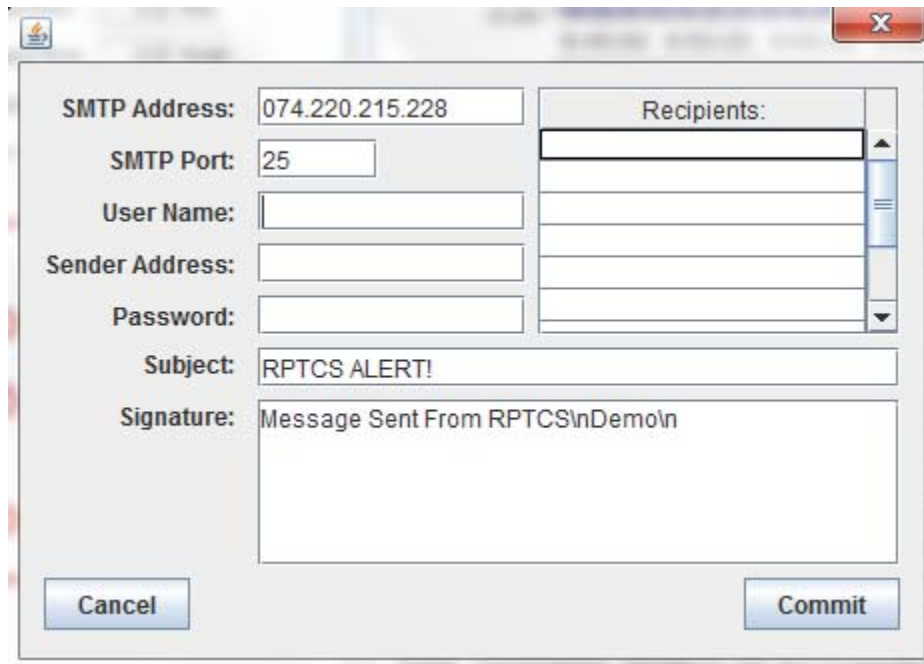

Figure 11 Email Settings
3. Figure 11 shows the Configure Network Settings window. The default IP address as well as default Gateway are shown in this window. The user may alter any values by simply inputting the desired values, then clicking to confirm the changes. To cancel any changes made, simply click on .